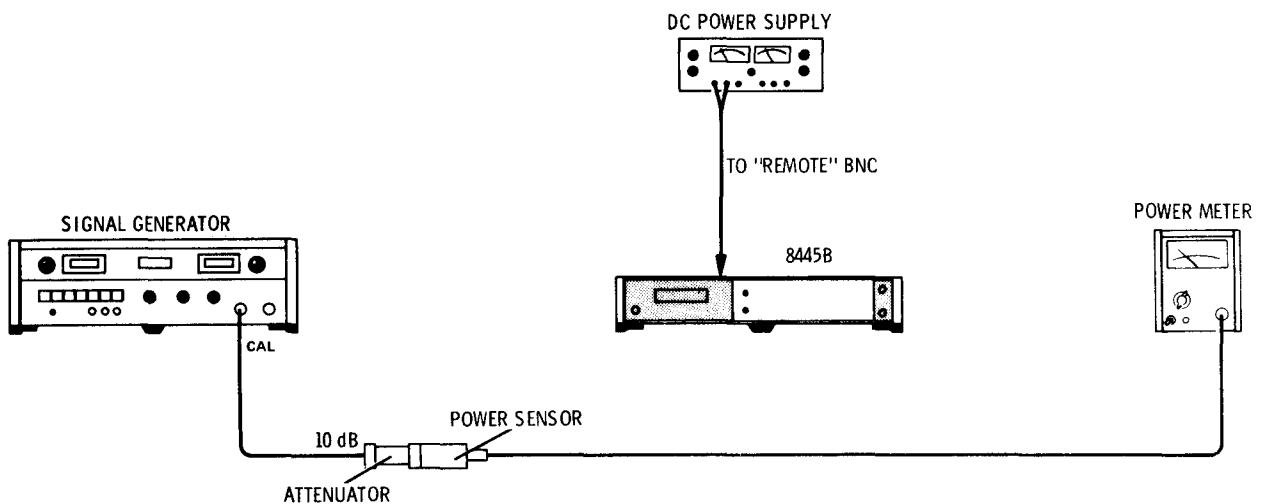

Figure 4-4. YIG Filter Signal Compression Test Setup
1. Connect test setup as indicated in Figure 4-4 and make the following control settings